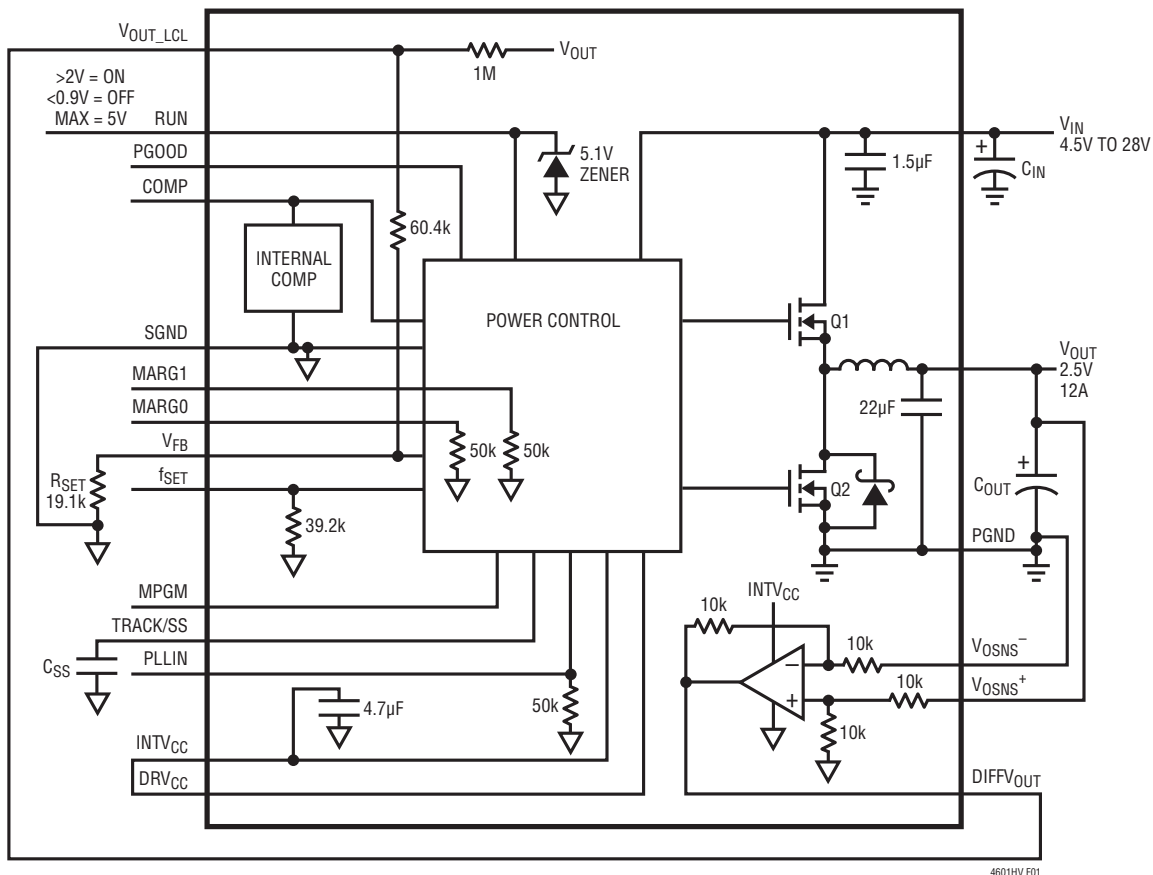

Figure 1. Simplified LTM4601HV Block Diagram
**DECOUPLING REQUIREMENTS**  $T_A = 25^\circ\text{C}$ ,  $V_{IN} = 12\text{V}$ . Use Figure 1 configuration.